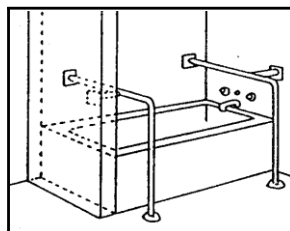

Fig. 6 Angle bars
Angle bars (Fig. 6) from the back wall (behind the tub) to the floor, with wall posts, may be used when one or both tub ends are enclosed by a wall.
- Wall mounted on a side wall (Fig. 6)